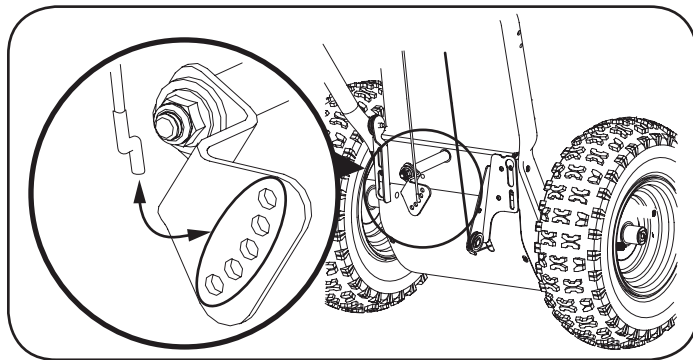

Figure 60
2. Lift the shift cable index bracket (a) up to create slack in the cable (b). See Figure 60.